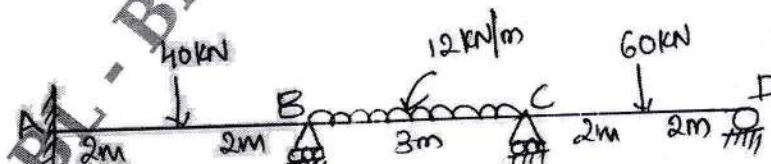

Fig.Q7
- 7 Analyse the beam show in Fig.Q7 by flexibility matrix method. Draw SFD and BMD. Take EI constant.